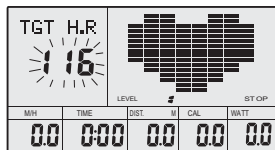

fig 32
- F. The target heart rate will flash, and then press(or rotate) UP, DOWN button to set up your target heart rate. Press ENTER to confirm the value.(See fig 32)